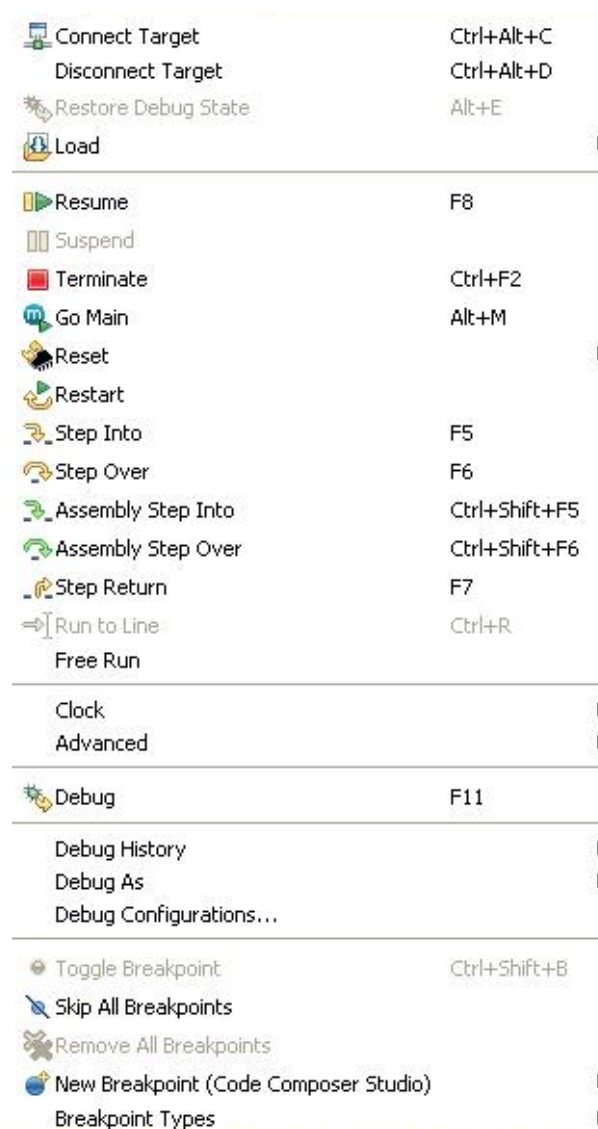

Figure 1.5.: Debug functions (Run menu)
**Run** → **Step Over** or <F6> executes the program line by line. The individual functions of the Run menu are listed in Figure 1.5.